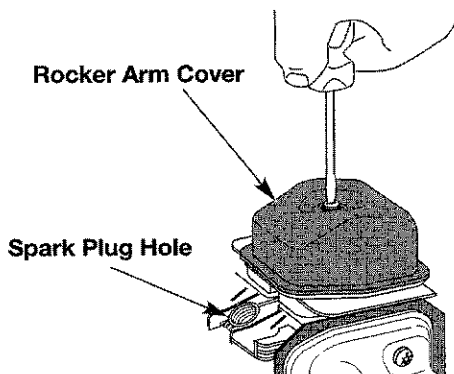

Fig. 52
7. Clean dirt from around the rocker arm cover. Remove the screw holding the rocker arm cover with a large flat blade screwdriver or Torx T25 bit (Fig. 52). Remove the rocker arm cover and gasket.
- The piston is at the top of its travel whilst looking in the spark plug hole (Fig. 52).